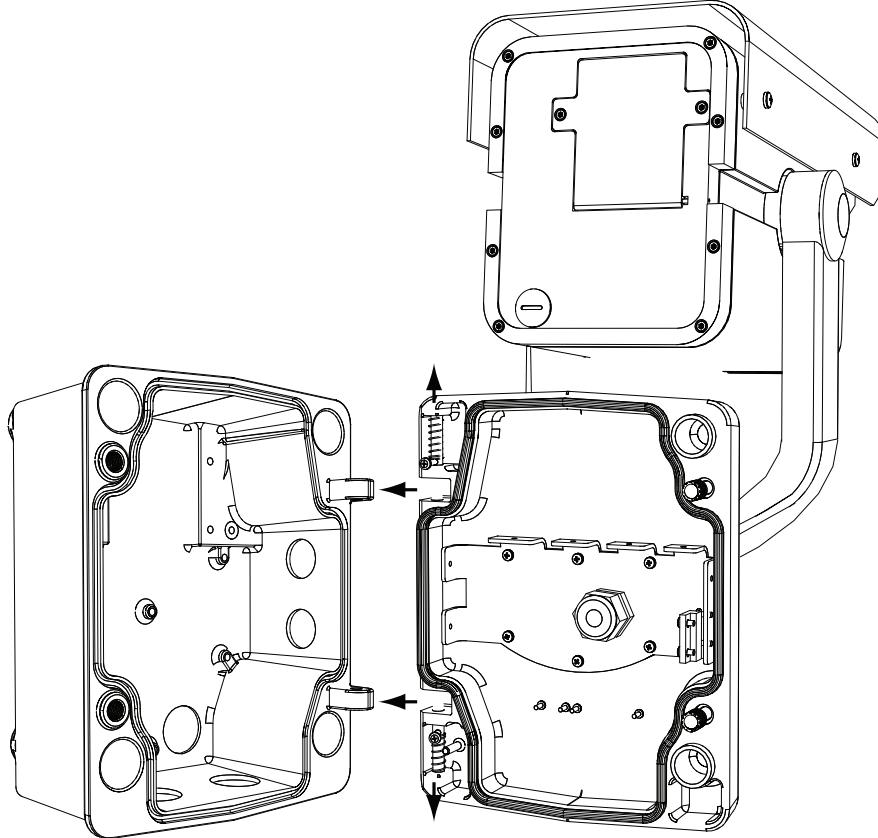

Figure 2.2 Camera Box Hinge Alignment
3. Cut and trim all wires with sufficient slack to reach their connector terminals in the box, but not so long as to be pinched. See *Figure 2.2, Page 8*, above, for the connector locations.
3. While continuing to hold the top hinge pin, open and align the top and bottom hinges of the Camera Arm to their mating points on the junction box. See *Figure 2.2*, above, for an illustration.